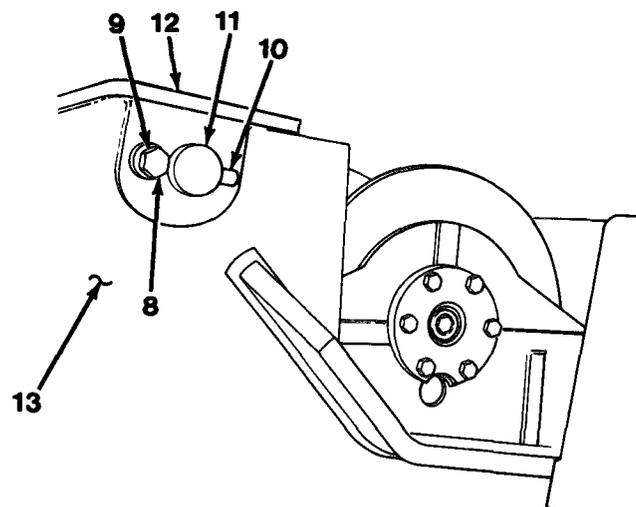

Figure 15-6
16. Remove capscrew (8), lockwasher (9), rod (10), boom base pin (11) and shims (12, Figure 15-6).
17. Lift boom (13, Figure 15-6) off carrier with lifting device and lower onto support.